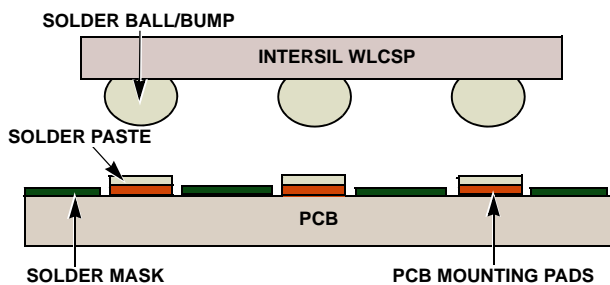

FIGURE 9. INTERSIL WLCSP PLACEMENT ON MOUNTING PAD WITH SOLDER PASTE - SIDE VIEW
- Side view of Intersil WLCSP placement on PCB is shown in Figure 9.